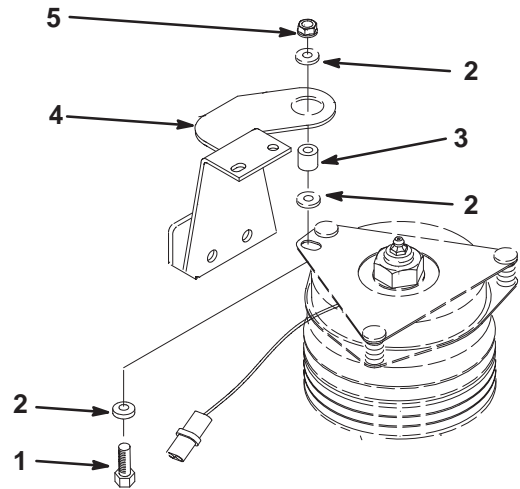

Figure 7
18. Secure the top of the clutch to the clutch bracket with a capscrew (7/16-20 x 1-1/2 inch), 3 washers, a spacer and a lock nut (7/16-20). Position the components as shown in figure 7.